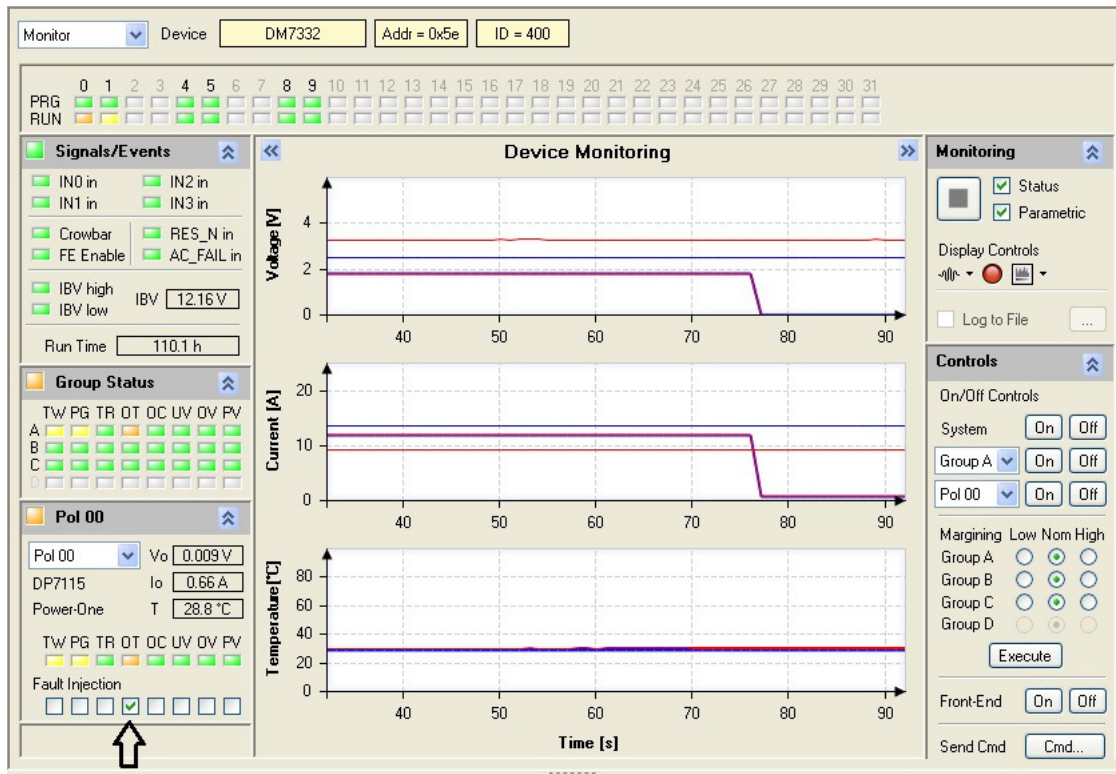

Figure 52. Example Overtemp Fault Injection in the GUI
In Figure 52 we see the effects of injecting an Overtemp (OT) fault. Note that dPOL-0 shows an OT fault. dPOL-0 and -1 are in the same Group and fault propagation for the dPOL is to propagate to the group. dPOL -4 and above are in Groups B and C. Propagation is not enabled from Group A to B.